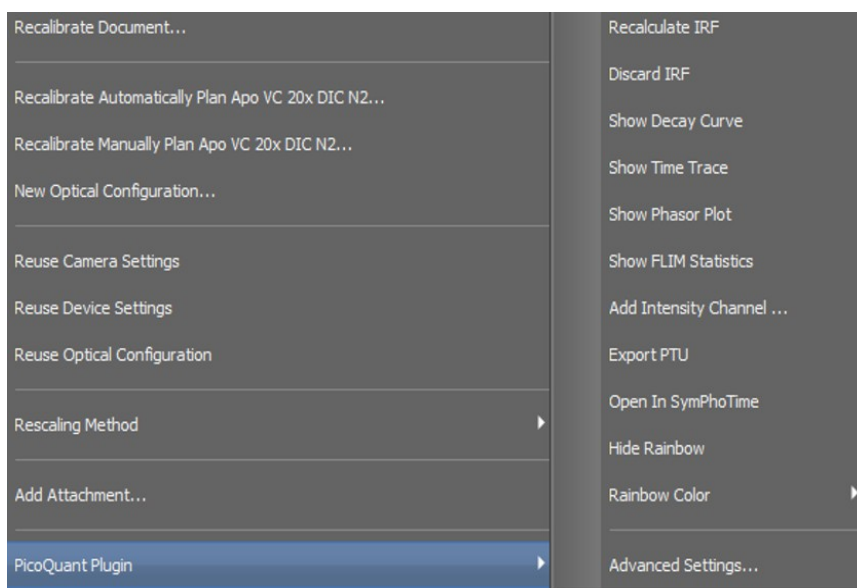
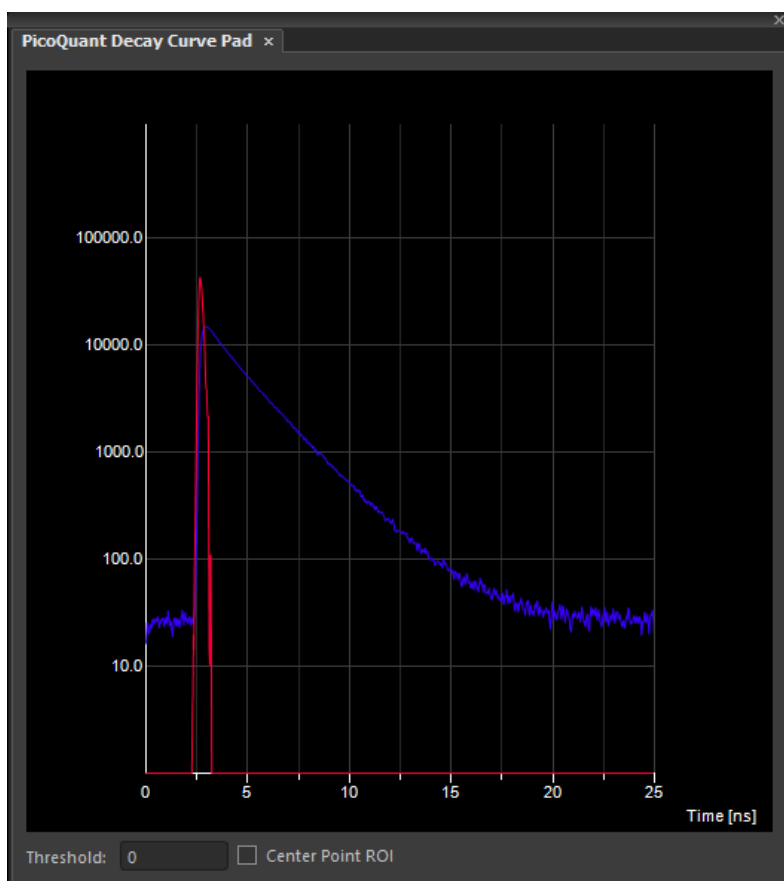

Fig. 3.10: Open the PicoQuant Plugin by right click in the image.
Fig. 3.11: PicoQuant Decay Curve Pad showing fluorescent decay (blue) and calculated IRF (red)
3. After the scan has been activated, the image appears. Adjust the focus and open the decay curve by right clicking in the FLIM image area, selecting “PicoQuant Plugin” and “Show Decay Curve” (see Fig. 3.10) and observe the decay behavior (see Fig. 3.11).